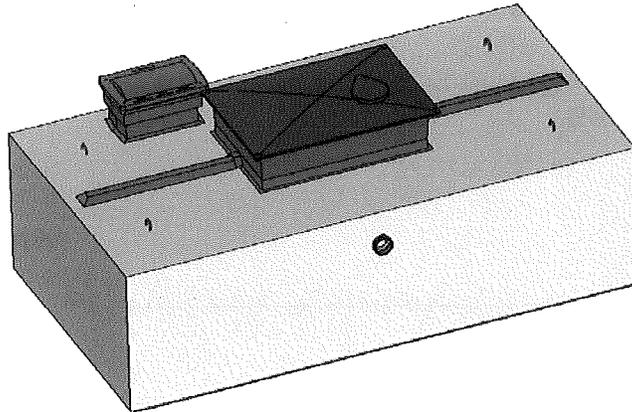

Figure 12
2.1 Verify that you have all the components as indicated in Table 2 and Figure 12.